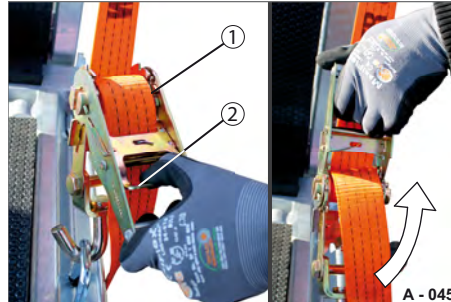

Fig. 64 Releasing the ratchet strap
- ▶ Press the lever (Fig. 64/2) and simultaneously pull the ratchet (Fig. 64/1) upwards.